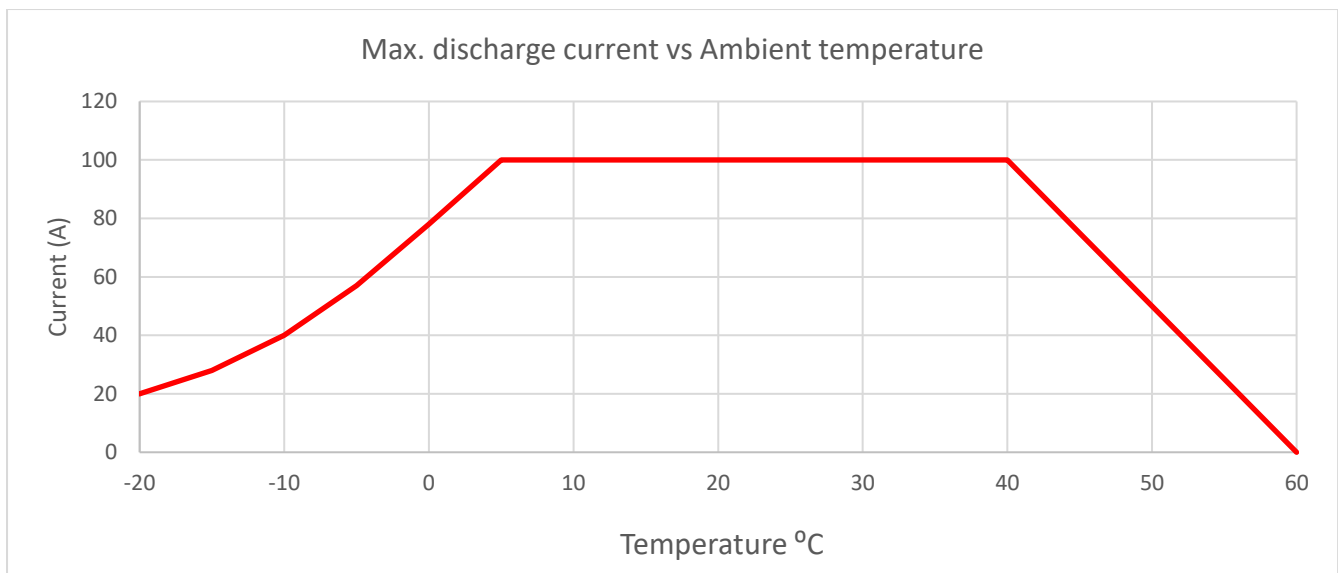

Fig. 1
- Operating temperature: see Figure 1 and 2
- Take care to use the battery within the temperature boundaries of figures 1 and 2